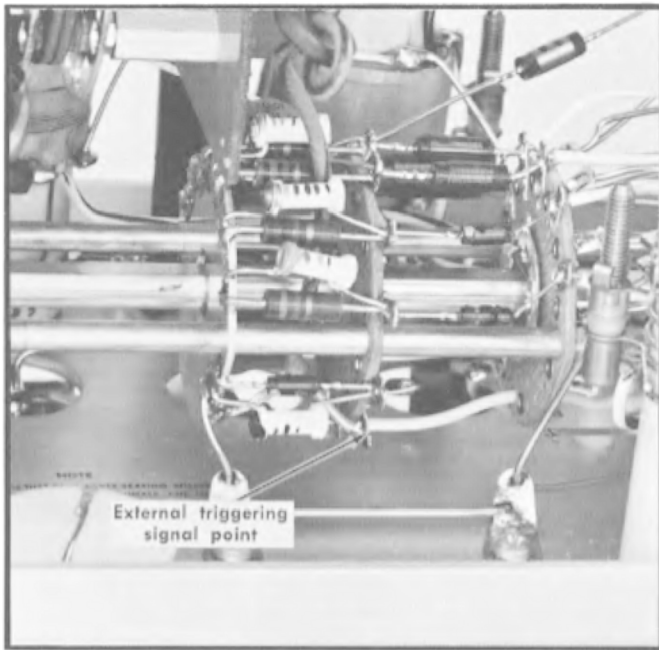

Fig. 6-16. Point from which external triggering signal for sampling test oscilloscope is derived.
- b. Connect a 100× sampling probe from external trigger input connector of the sampling oscilloscope to the FREQUENCY RANGE switch end of the coaxial cable which runs from the switch to the sampling point. See Fig. 6-16.